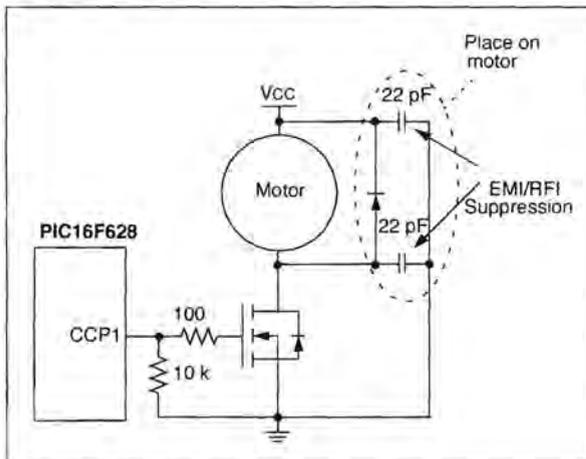

Figure 4: Duty cycle relation to  $V_{RMS}$
**Figure 4** shows a unidirectional speed controller circuit for a brushed DC motor. Motor speed is proportional to the duty cycle of the PWM output on the CCP1 pin. The following steps show how to configure the PIC16F628 to generate a 20kHz PWM with 50% duty cycle. The microcontroller is running on a 20MHz crystal.